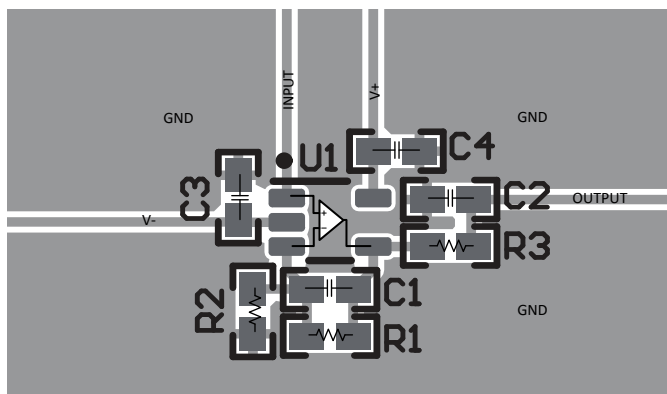

图 8-4. Operational Amplifier Board Layout for Noninverting Configuration - SC70 (DCK) Package
- Place the external components as close to the device as possible. As shown in 图 8-4, keeping RF and RG close to the inverting input minimizes parasitic capacitance.